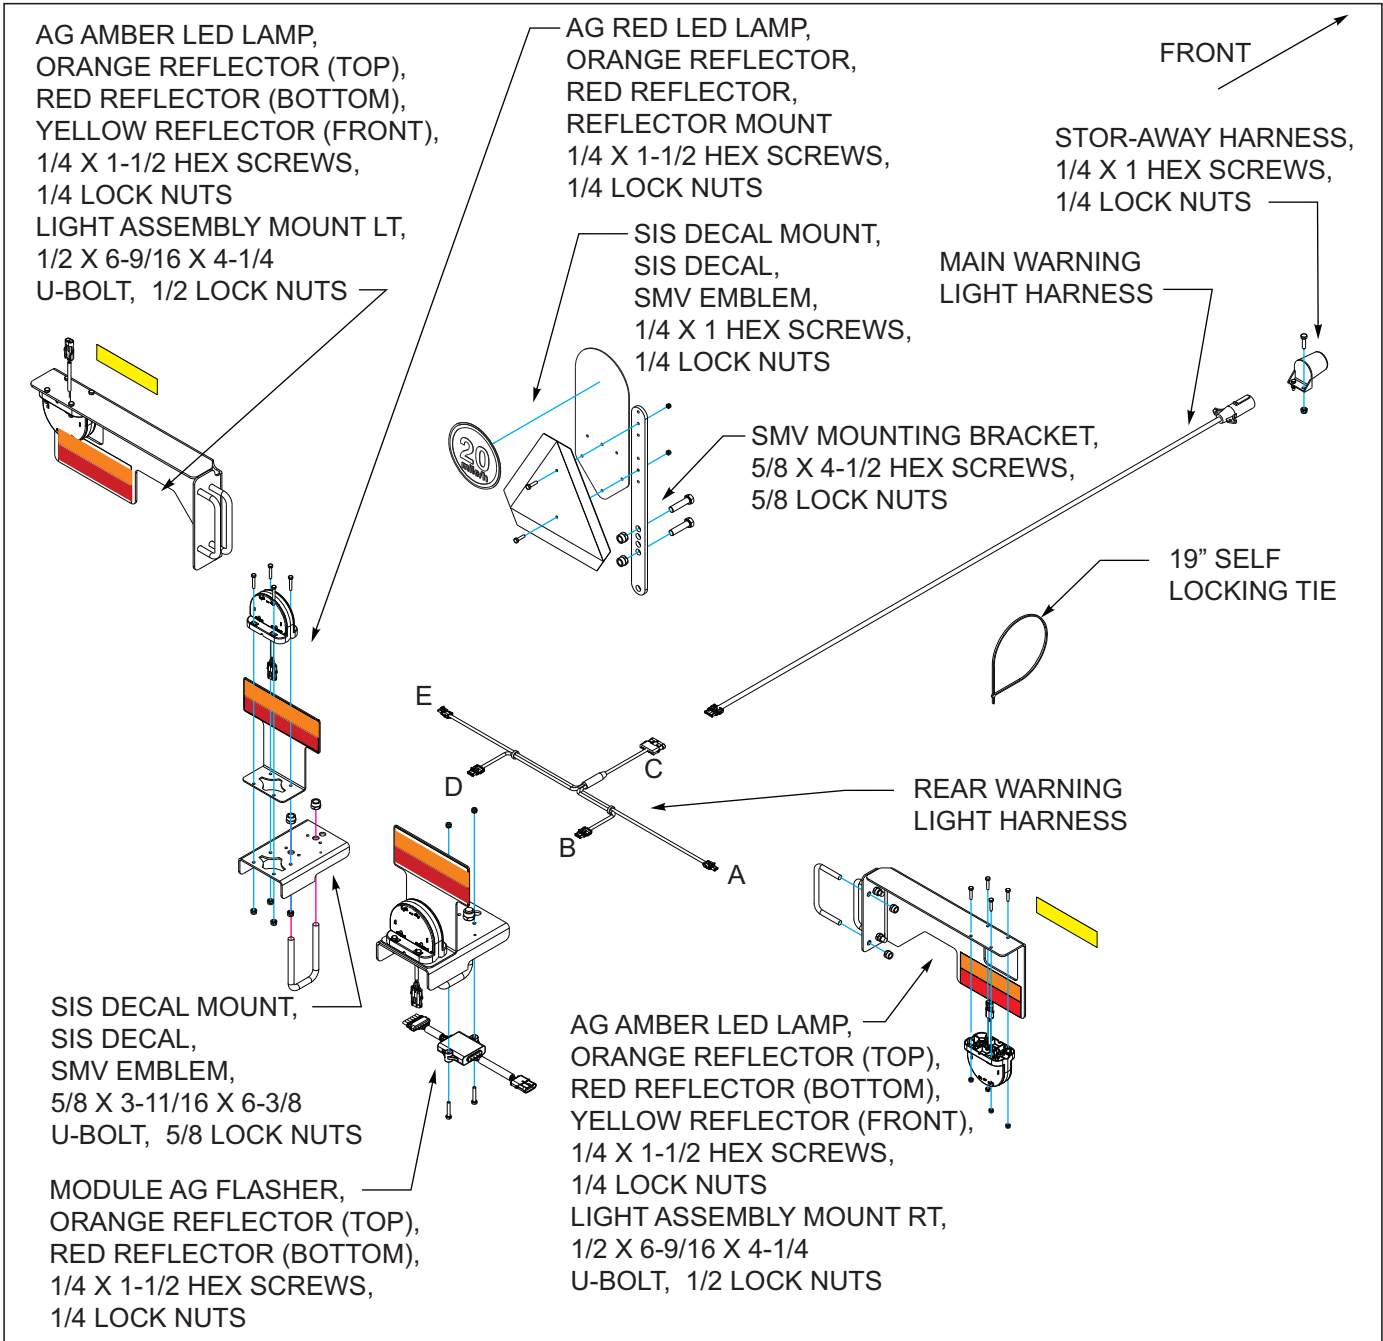

Figure 3-30: LED and SMV Bracket Installation
1. Assemble the SMV emblem, SIS decal mount, SIS decal to the SMV bracket using 1/4 x 1 bolts and locknuts See Figure 3-30. On 19'-25' units assemble the SMV and bracket to the left of the rear center shank on the rear bar of the finisholl with u-bolt and 5/8 locknuts. For 27'-35' units assemble the SMV and bracket to the rear wing fold mount using 5/8 hex bolts and locknuts.